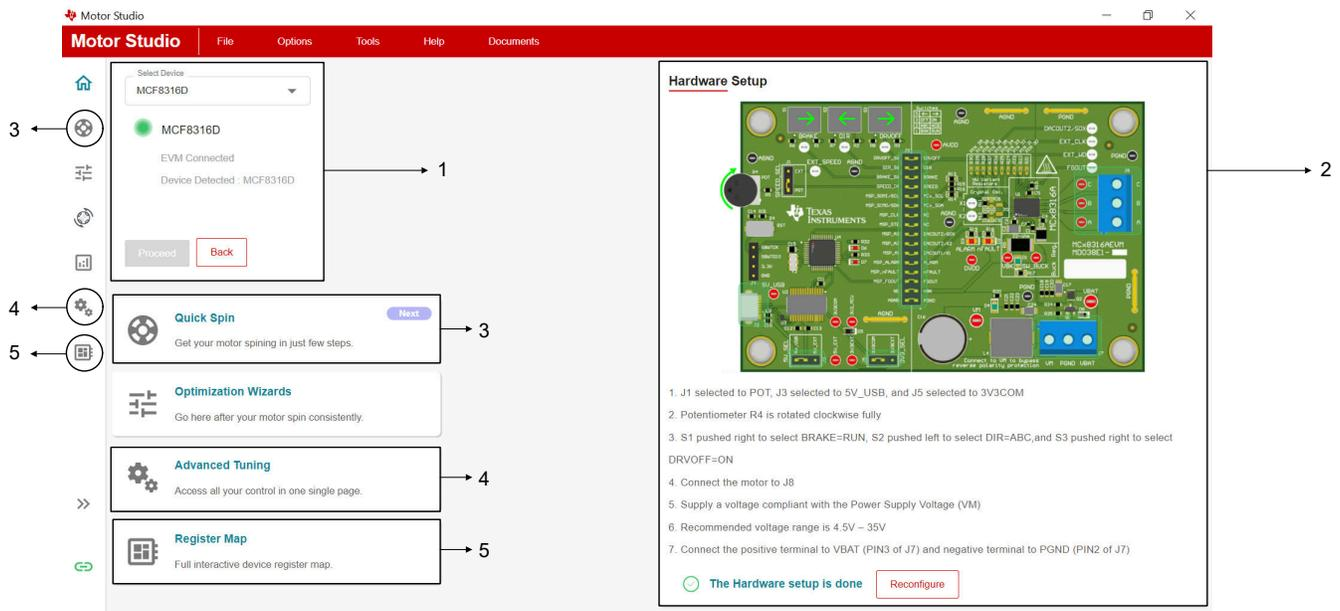

Figure 3-1. Landing Page Information
Figure 3-1 shows the the landing page (starting point) of the GUI with different sections marked. Table 3-1 explains different sections in the GUI according to Figure 3-1
Step 3: Select your device and click *Proceed*. A window similar to Figure 3-1. opens up for the selected device.
Step 4: Follow the instructions in the *Hardware Setup* section for selected device (Figure 3-1 is for reference only) by clicking on "Setup Now".